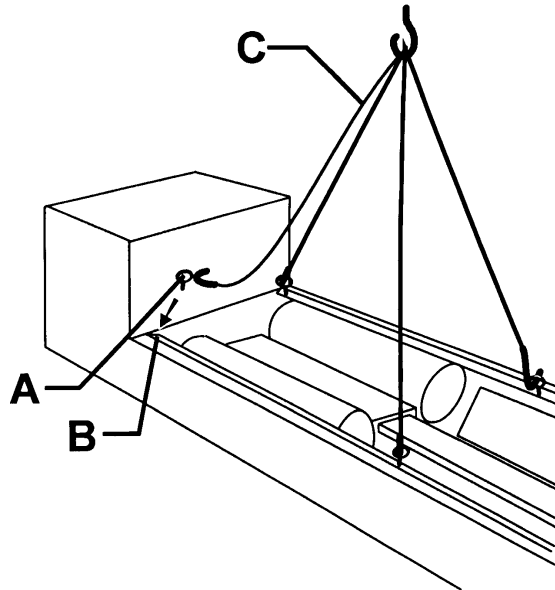

Figure 1
2. Install the four (4) ring bolts (A) supplied with the Dynamometer, if not already installed, by screwing them into the threaded holes (B) shown in Figure 1.
3. Connect the steel cable/chain (C) to the four (4) ring bolts (A), shown in Figure 1. This will enable the crane or other suitable lifting device to move the roller set to the installation site.